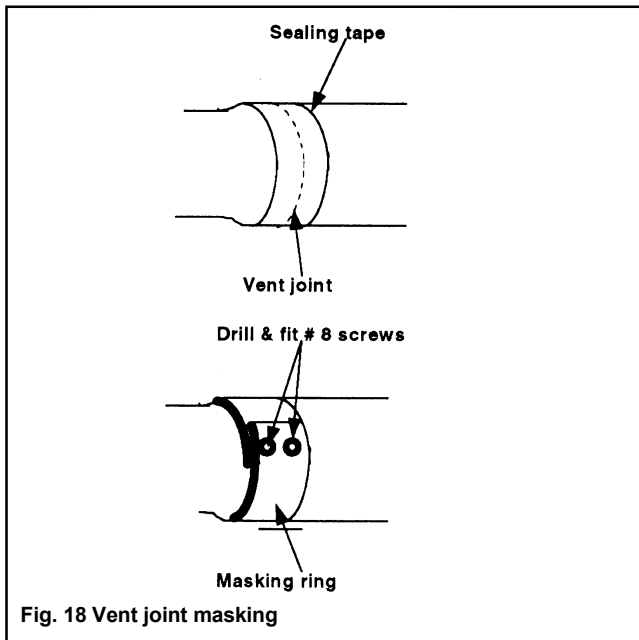

Fig. 18 Vent joint masking
10.18 Seal the joint between the elbow and the terminal with the sealing tape supplied (see figure 18).
10.19 Locate the masking collar over the joint so that it hides the tape. Squeeze the collar as tight as possible and align the two holes and slots in the collar. Mark the sealing tape at the position of the holes (see figure 18).
10.21 Place the masking collar back in position. Squeeze as tight as possible and fix over the vent joint with two #8 tapping screws (see figure 18).